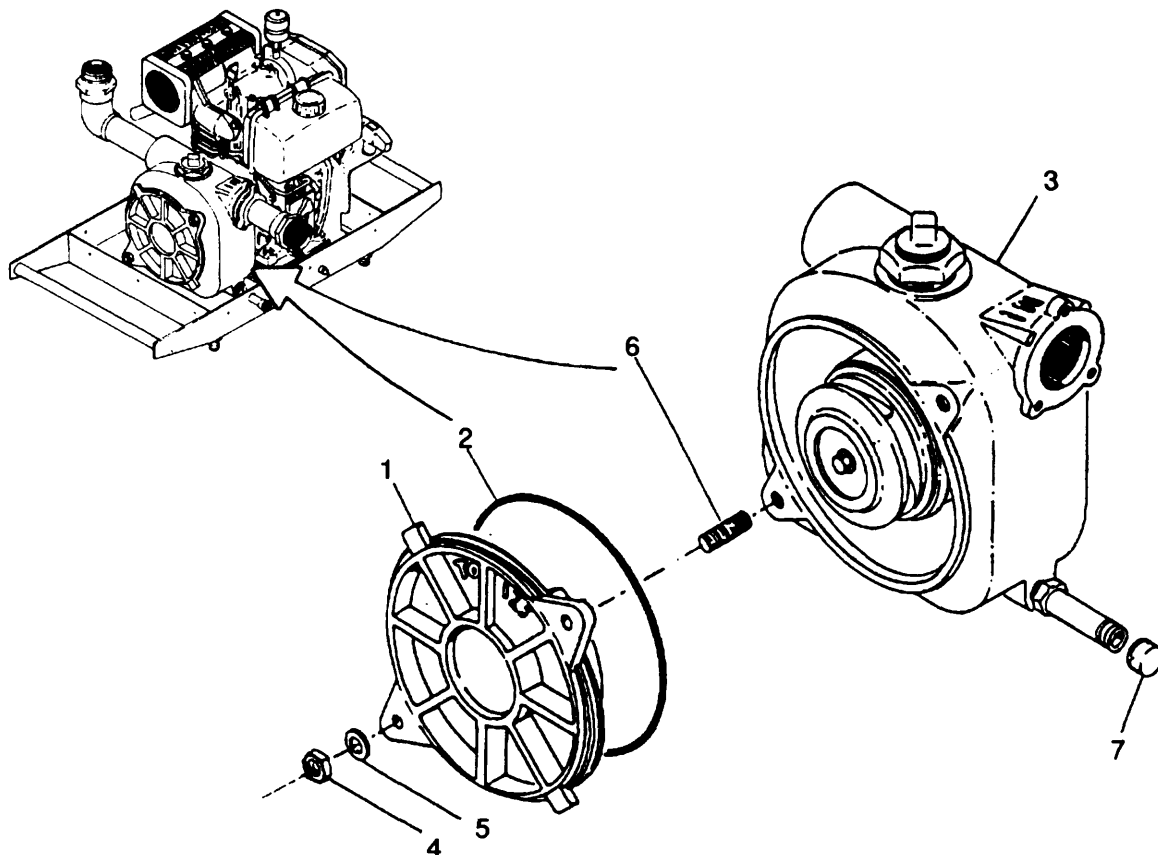
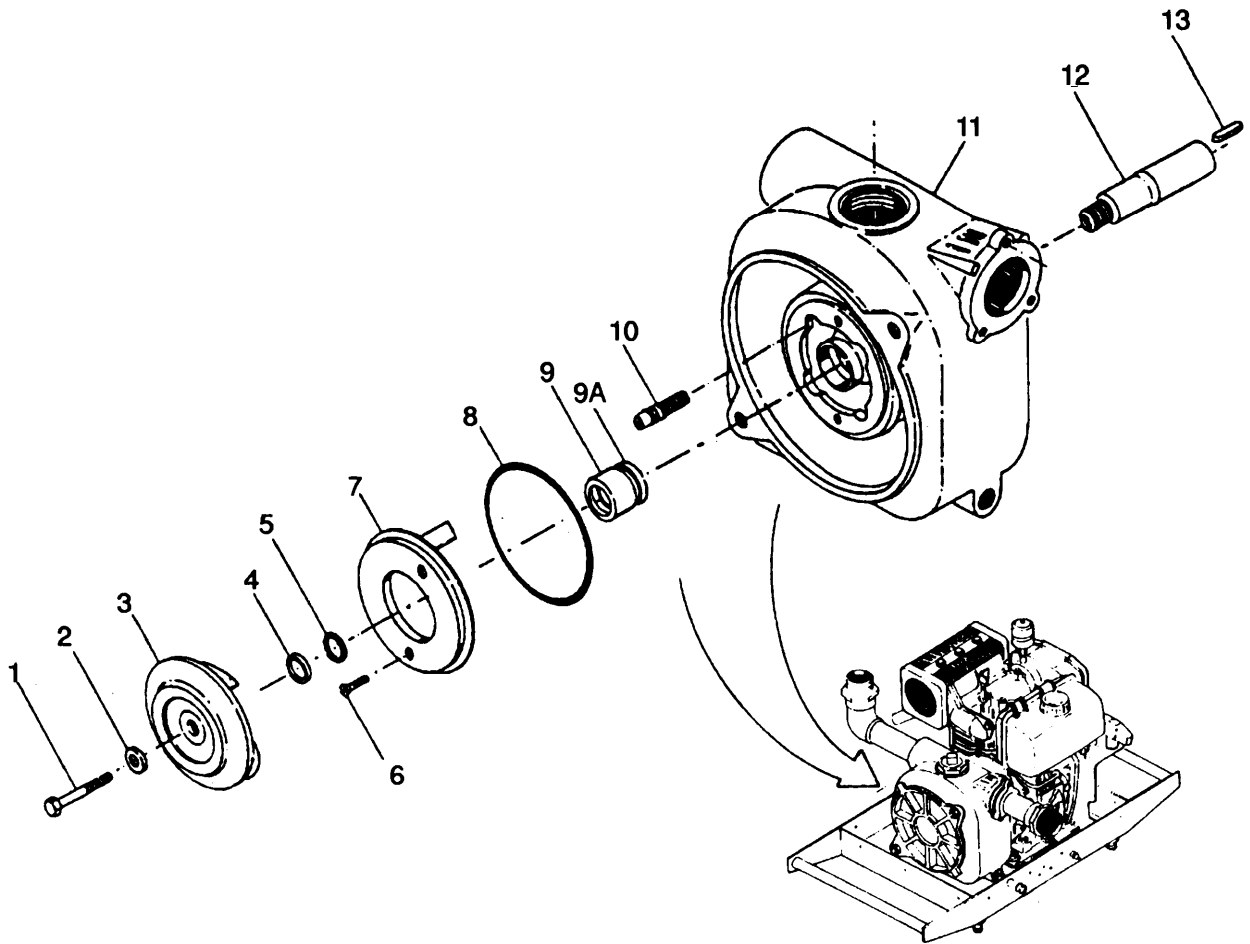

Figure 4-6. Replacing Volute
Figure 4-7. Replacing Impeller, Shaft Seal, and Shaft Adapter
When replacing seal, also replace volute O-ring (refer to item 2, Figure 4-6), wear plate O-ring (8, Figure 4-7), and four self-sealing screws (10).
- d. Install new shaft seal (9) onto shaft adapter (12).
- (1) Screw impeller (3) dockwise onto shaft adapter (12) without shims (4 and 5). Be sure that the impeller is seated firmly against the shaft shoulder. Secure the impeller with teflon washer (2) and hex bolt (1).
- (2) Measure from the face of the impeller to the face of the wear plate with feeler gauge. Clearance should be 0.010 to 0.015 inch (0.254 to 0.381 mm).
- (3) Shim (4) is 0.010 inch (0.254mm) thick and shim (5) is 0.005 inch (0.127 mm) thick. Add any combination of shims to obtain proper clearance.
- f. After proper clearance is obtained, use strap wrench to hold shaft and tighten impeller locking bolt (1).